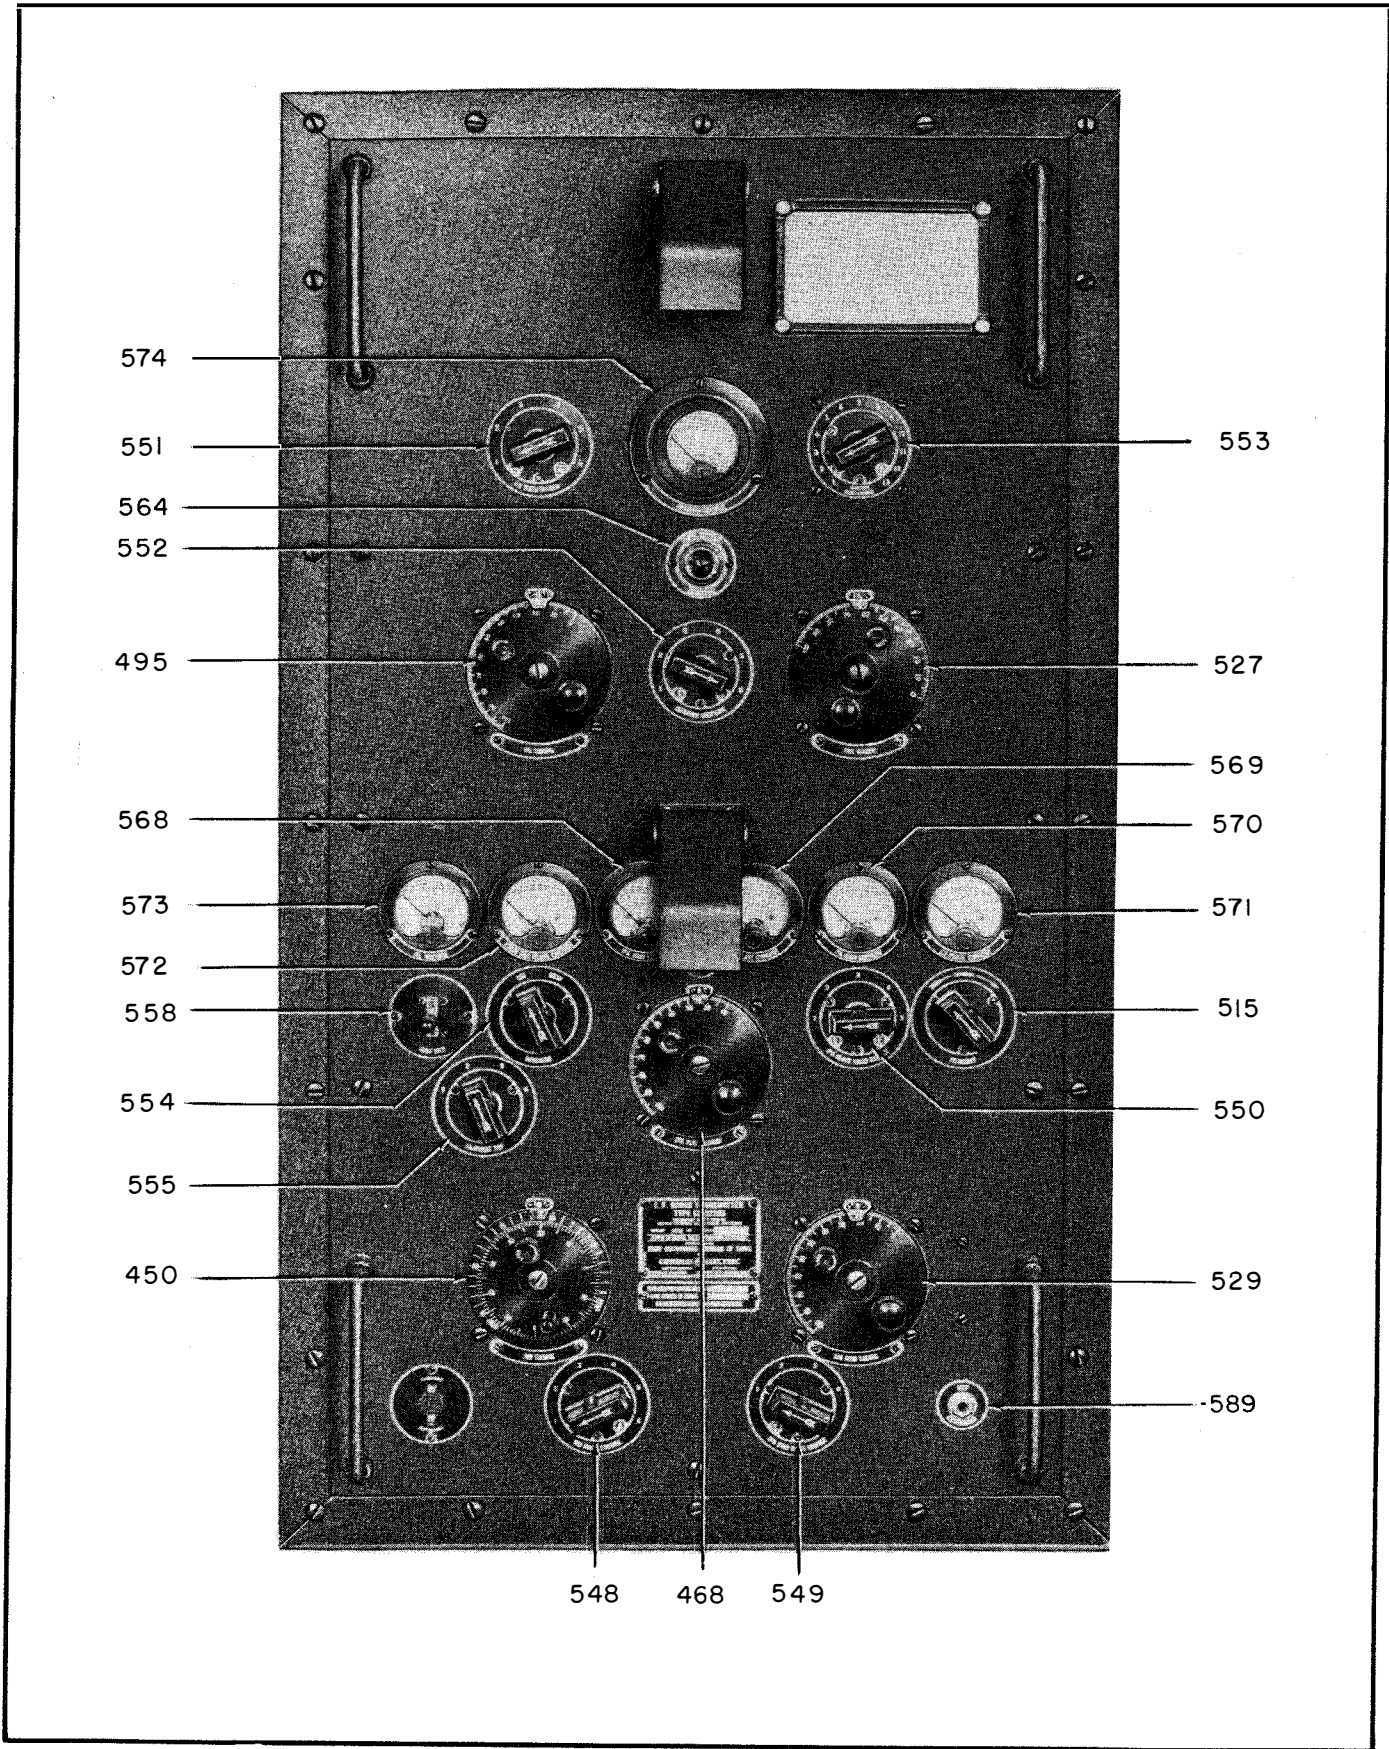

Figure 1-5. I-f Radio Transmitter Navy Type CG-52205, Front View
(1) FUNCTION.—The i-f radio transmitter is designed for telegraphic operation at any speed up to 40 words per minute.
(2) CONSTRUCTION.—The construction of the i-f transmitter is exactly the same as that of the h-f radio transmitter except for depth. Refer to this section, paragraph 3b(2).
(3) FRONT PANEL CONTROLS. (See figure 1-5.)—The front panel controls are arranged in horizontal rows. Starting from the top left of the equipment, these controls are: the hinged illuminating lamp, the tuning chart, the "PA BAND CHANGE" switch (551), the "ANTENNA CURRENT" meter, the "ANTENNA BAND CHANGE" switch (553), the "PLATE VOLTAGE INDICATOR" lamp, the "PA TUNING" control (495), the "ANTENNA COUPLING" switch (552), the "ANT. TUNING" control (527), the "FIL VOLTAGE" meter, the "AUDIO OSC PLATE CURRENT" meter, the "IPA GRID CURRENT" meter (568), the "IPA PLATE CURRENT" meter (569), the "PA GRID CURRENT" meter (570), the "PA PLATE CURRENT" meter, the "TEST KEY" (558), the "CW-MCW" emission switch (554), the "FILAMENT TAP" switch, the "IPA PLATE TUNING" control (468), the "IPA PLATE BAND CHANGE" switch (550), the "FILAMENT" control (515), the "MO TUNING" control (450), the "IPA GRID TUNING" control (529), the "CALIBRATION-COMPENSATOR" switch, the "MO BAND CHANGE" switch (548), the "IPA GRID BAND CHANGE" switch (549), and the "KEY EXTENSION" jack.